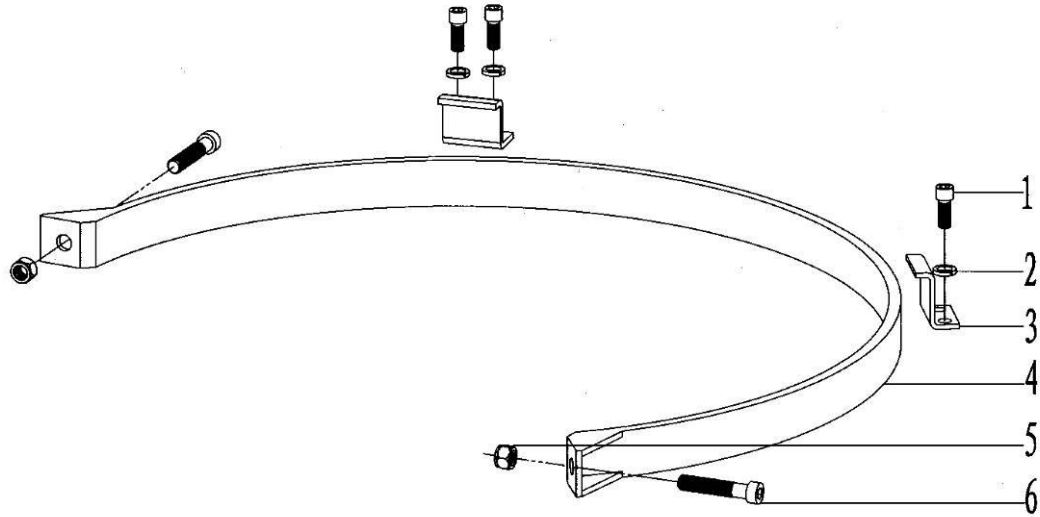

Fig 18
7.18 Assembly of brake band (Fig 18, Table 18)